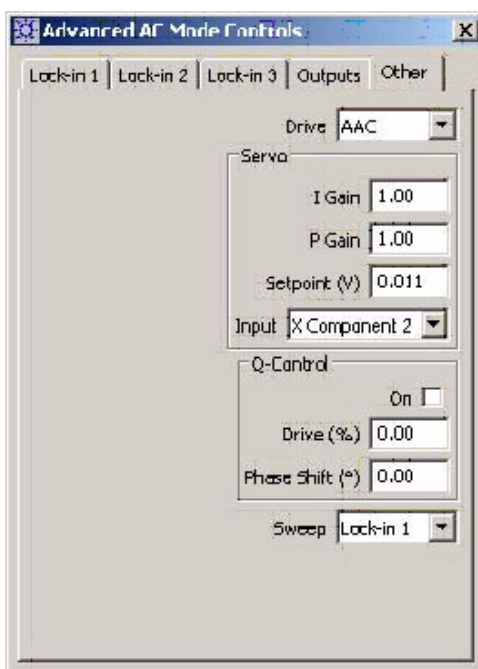

Figure 89 Advanced AC Controls Other tab
- 1 Choose **Controls > Advanced > AC Mode**, then click the **Other** tab (Figure 89).